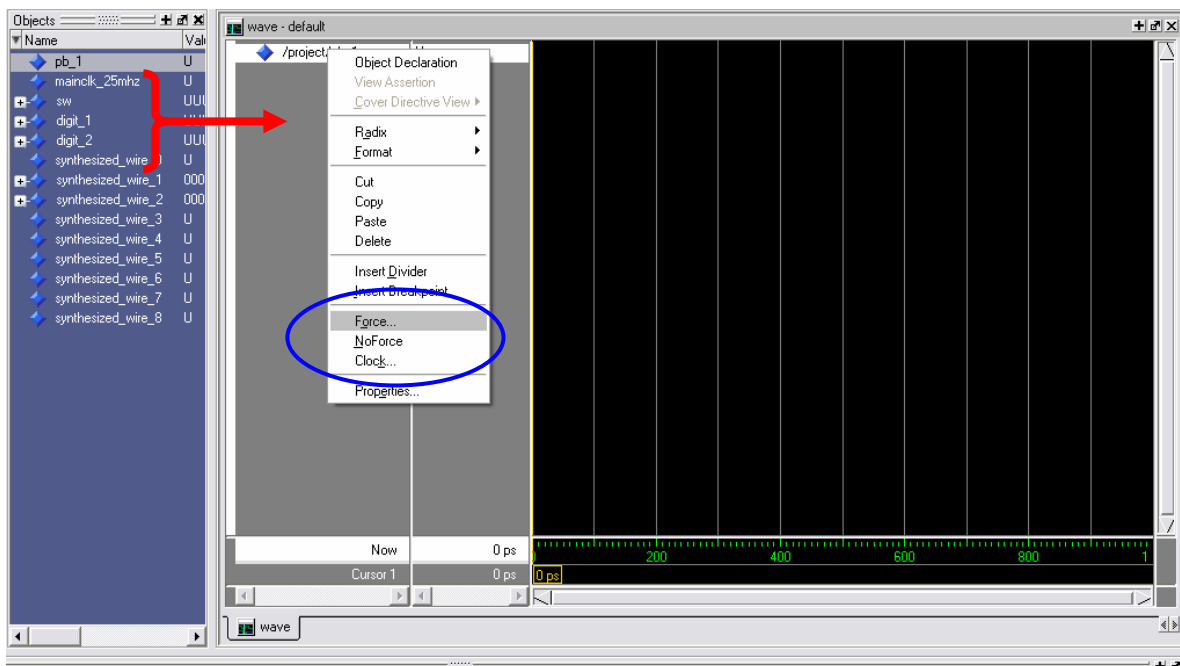

Figure 9: GUI-Adding design stimulus
- Create stimulus by using the appropriate command (highlighted in blue in figure 9) in the sliding menu that compares by the right clicking on the desired signal.